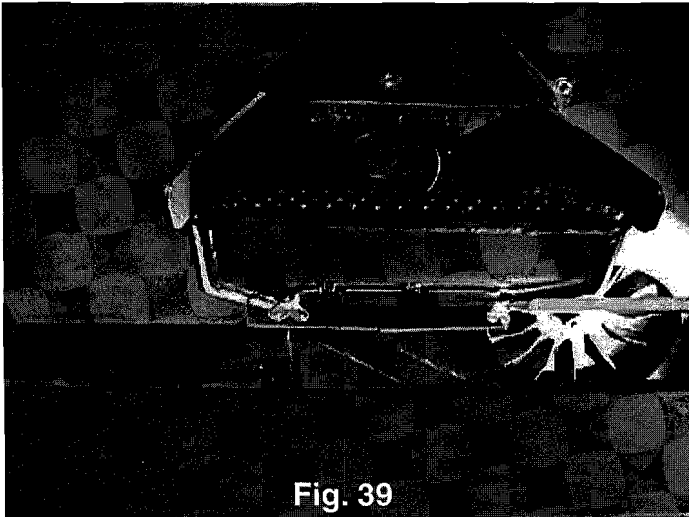

Fig. 39
1. Scrape the top holed surface and sides of the burn pot down to auger tube.(Fig 39) It is not necessary to completely remove all material from the burn pot. The excess will be pushed out during the next use.